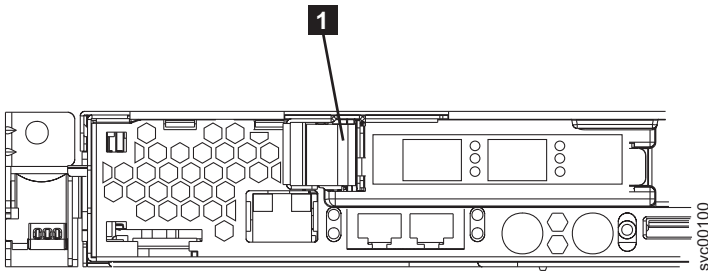

Figure 183. SAN Volume Controller 2145-8F2 or SAN Volume Controller 2145-8F4 PCI slot 1 card retainer
1. Install the Fibre Channel card in slot 1, which is shown in Figure 183 on page 186.